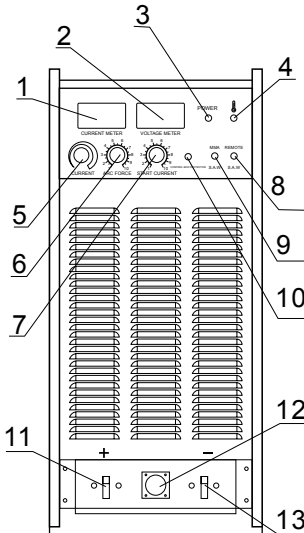

Figure 3 Front Panel
- The external connection of the machine installed is as shown in Figure 3 below.